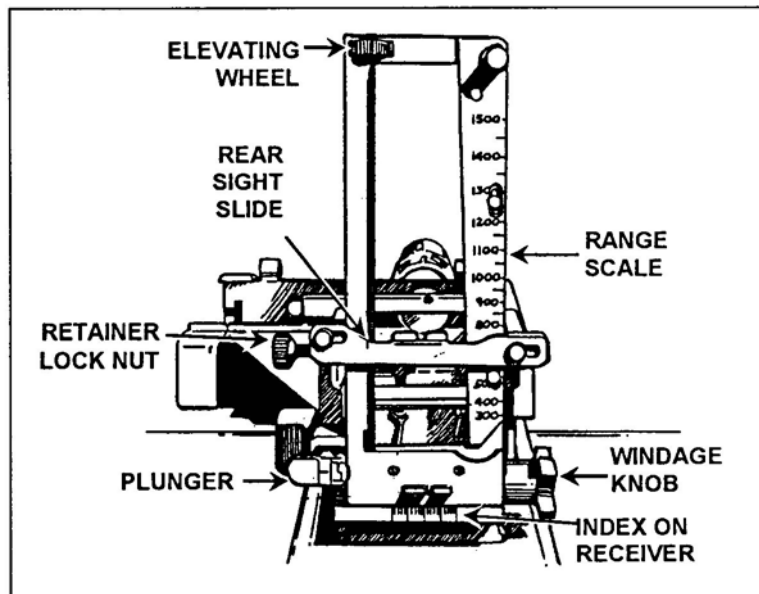

Figure 1. Preparing the Sights for Zeroing
1. Prepare the sights for zeroing (Figure 1).